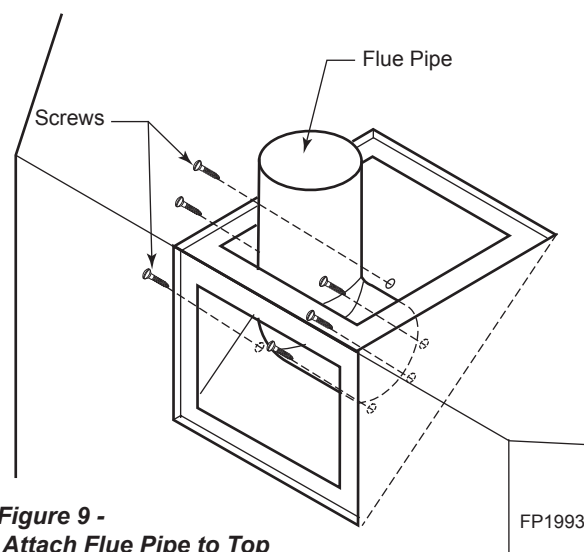

Figure 9 -
5. Replace flue pipe to top of firebox. Ensure the gasket is in place and undamaged. Secure with eight (8) screws. *Figure 9*